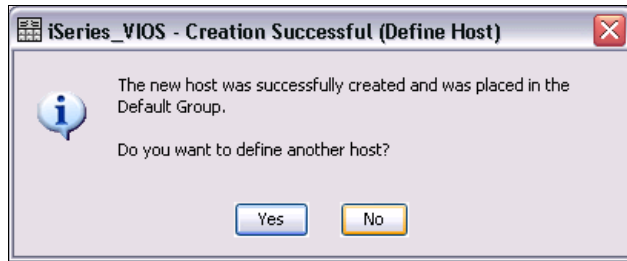

Figure 7-72 DS Storage Manager Creation Successful (Define Host) dialog
13. Since we do not want to create another host definition at this time we choose **No** in the confirmation dialog about the newly created host definition, as shown in Figure 7-72.